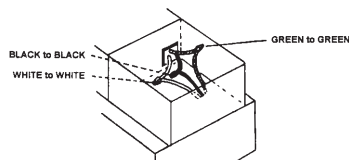

Figure 8
This air cleaner is powered by providing power to pigtail leads at field wiring compartment (see knock-out holes) located at the rear of the power pack assembly (See Fig. 8).
3. Make wiring connections inside junction box area (See Fig. 8). Remove knock-out and use conduit or other approved methods to supply input power. Connect ground wire to clip.